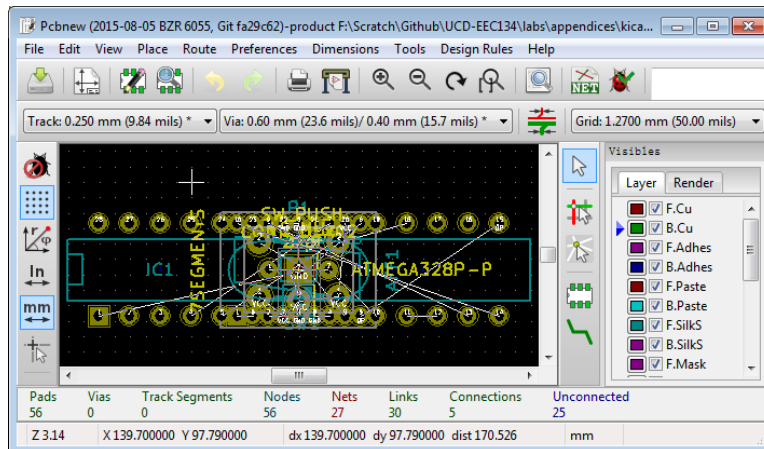

Figure 23: “Rat’s nest” of footprints and connections after initial import of the netlist.
4. You should now see a bunch of footprints appear in the upper left corner of the Pcbnew main window (Fig. 23). The electrical connections between the components are shown as thin white lines. This initial blob of footprints and lines are often called “rat’s nest”.